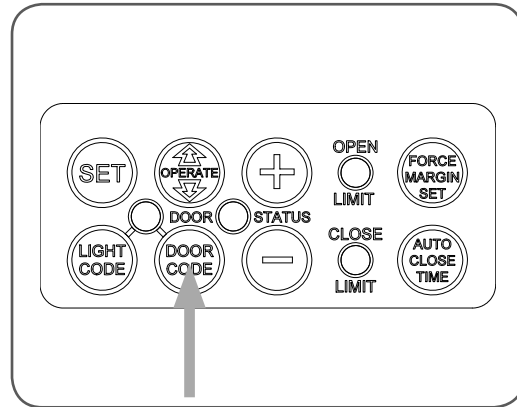

fig 25
- Press and hold the DOOR CODE button (Fig. 25).